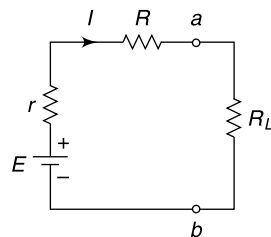

Fig. 4.112 Circuit for illustrating maximum power transfer theorem
Figure 4.112 shows a simple resistive network in which a load resistance R_L is connected across terminals a and b of the network. The network consists of a generator emf(E) and internal resistance r along with a series resistance R . The internal resistance of the network as viewed from the terminals a and b is (R_i) = $r + R$.
Let us assume that current I flows through R_L in the circuit shown in Fig. 4.112.